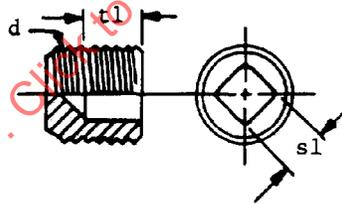

FIGURE 1—TYPE A SQUARE COUNTERSUNK HEADLESS PLUGS
3.1 Tables 2 and 3 and Figures 1 to 4 list the type and principal dimensions of the recommended plugs which are suggested to ease maintenance. Common tools can be used, a minimum number of tools are needed and the plugs are easily distinguished. All plugs and tools herein are nominal inch sizes.